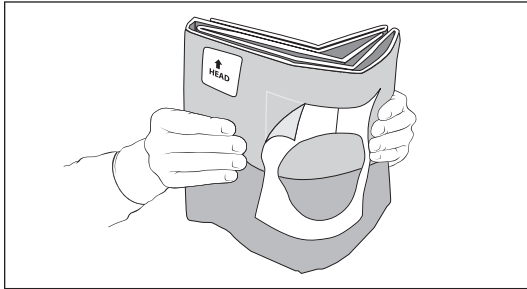

Figure 9
- Peel off fenestration backing (refer to Figure 9).